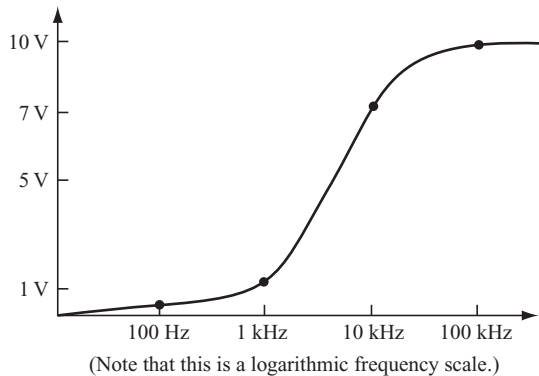
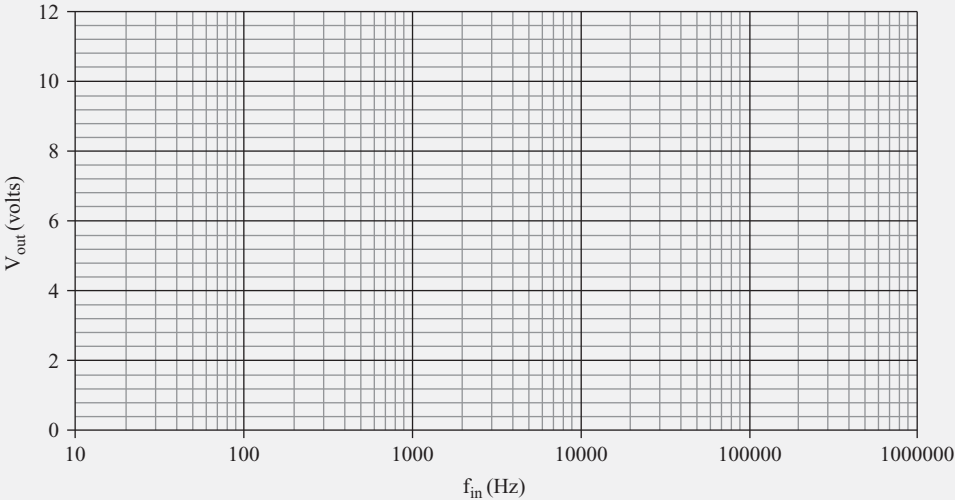

FIGURE 6.9
FIGURE 6.11
- E. The curve is shown in Figure 6.9.
- 9. In the blank graph shown in Figure 6.11, plot  $V_{out}$  versus  $f_{in}$  with the voltage on the vertical axis and the frequency on the X axis. The curve should have the same shape as the curve shown in Figure 6.9, but don't worry if your curve is shifted slightly to the right or left.